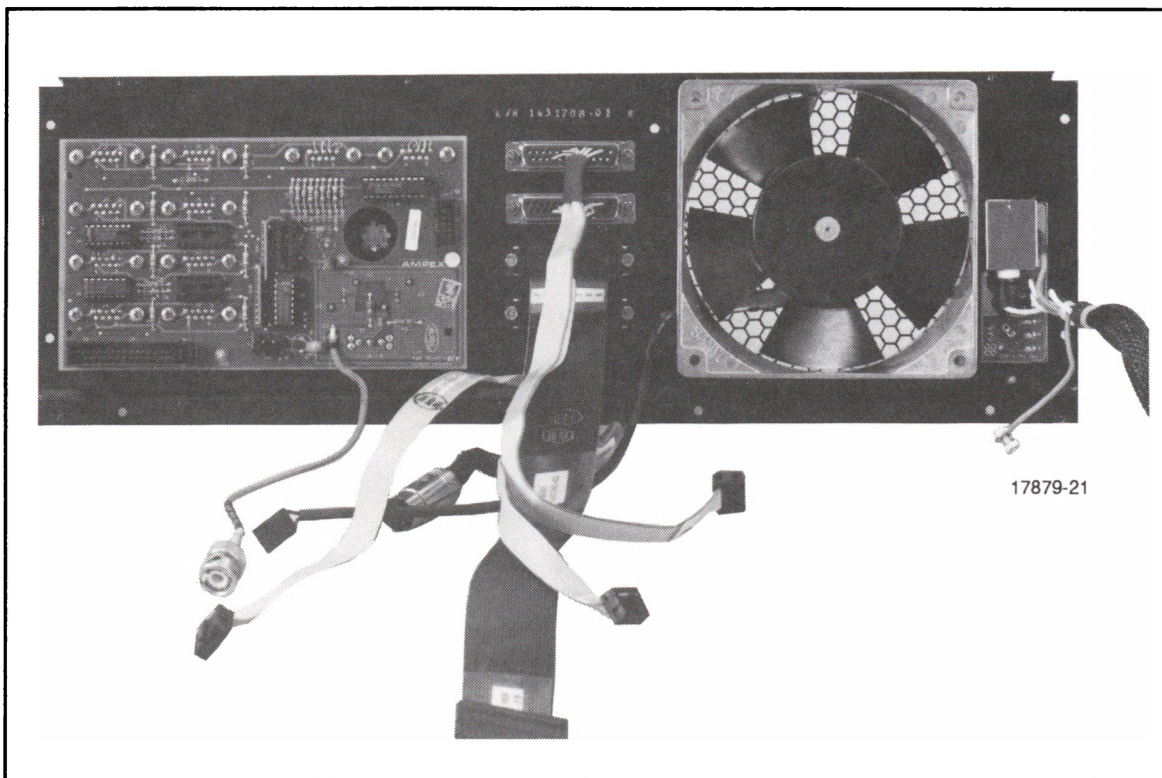

Figure 4-6. Input/Output Panel Assembly
24. Carefully remove entire Input/Output Panel Assembly from Edit Controller chassis. Figure 4-6 shows the Input/Output Panel Assembly after removal.